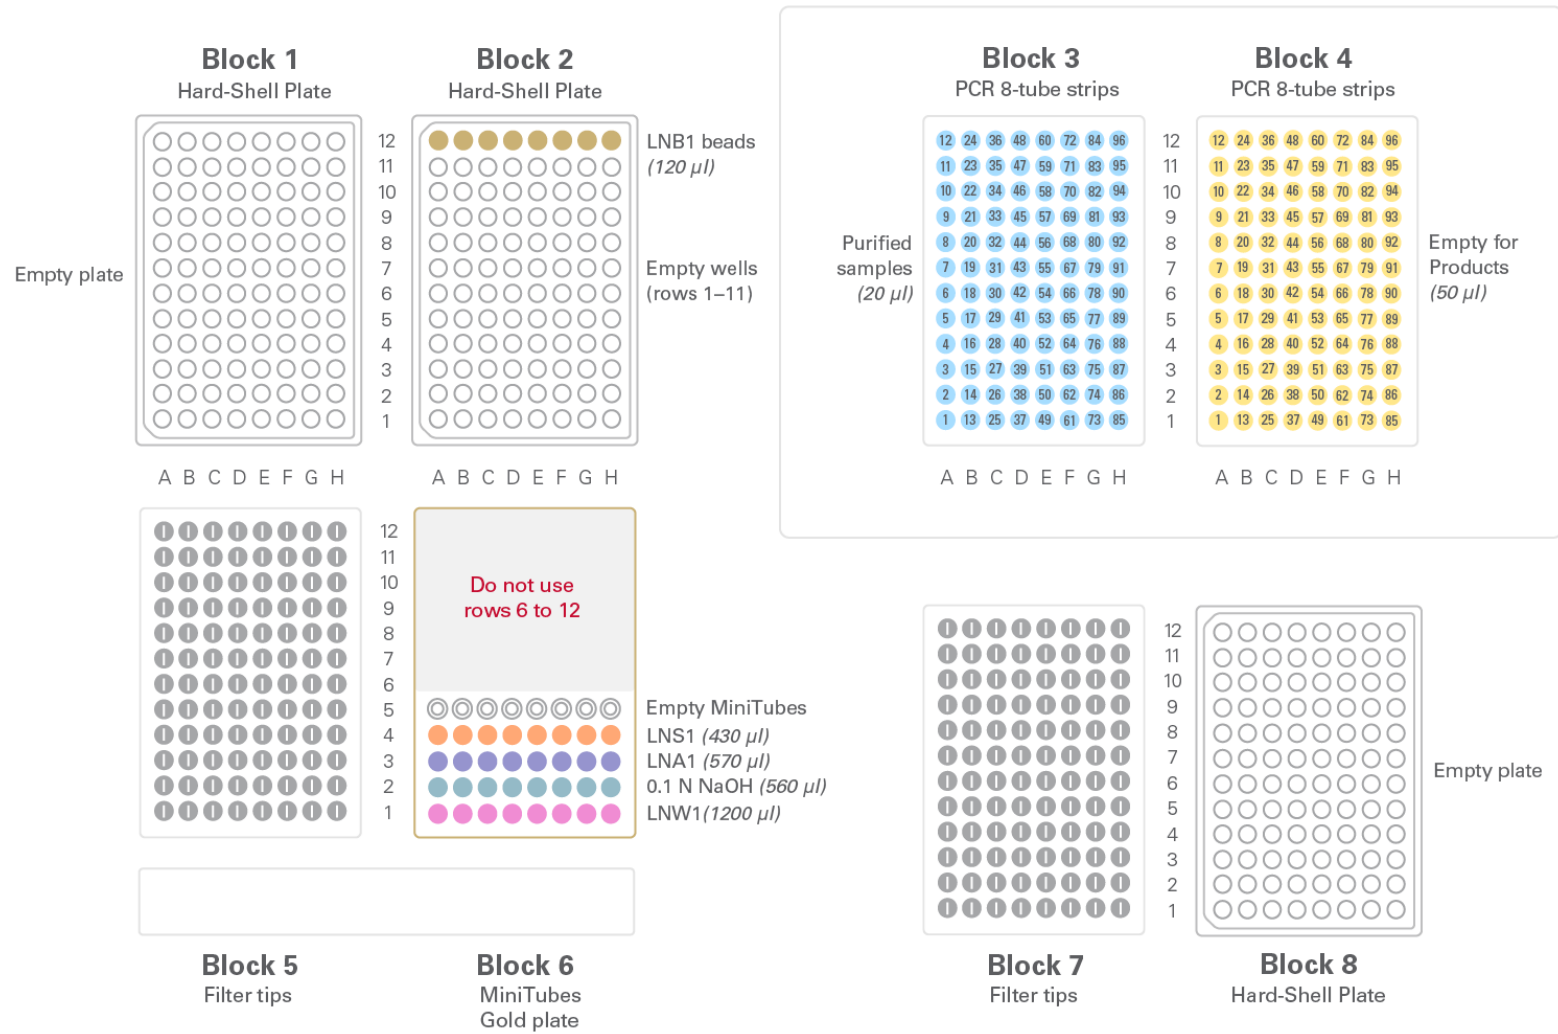

Figure 6. Loading layout for normalization.
4. Load consumables onto the work surface and aliquot reagents, following the layout in Figure 6 (next page):